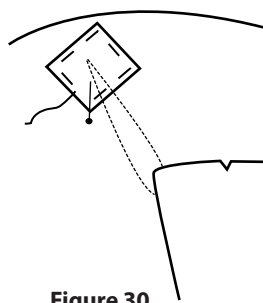

Figure 30
1. If necessary, reinforce fashion fabric with fusible interfacing at slash point. On right side of garment, position bias square reinforcement over the center of the slash point. Pin and baste in place along stitching line (Figure 30).